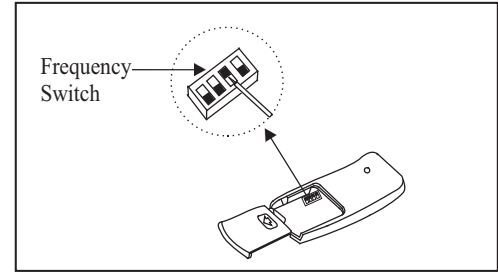

Figure 21
2. The transmitter frequency selector is located in the battery compartment as show in Fig. 21. Each frequency selector has 4 switches, you may use any number of possible combinations but you must set each switch in the transmitter to match the same switch in the receiver.